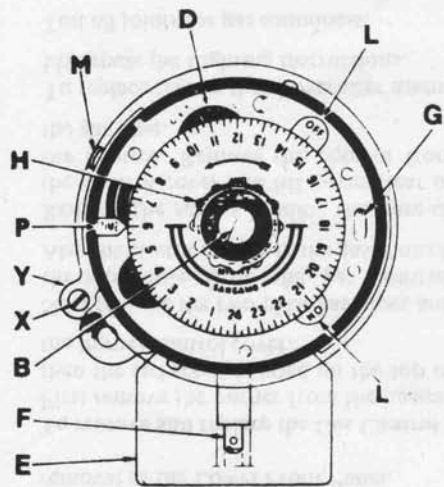

Fig. 1
1. Unscrew captive screw X (Fig. 1), rotate front cover anti-clockwise and lift clear.
9. On completion of installation and/or setting of switch, replace cover and rotate clockwise to fully closed position with cover lug Y in attitude shown in Fig. 1. Tighten screw X.
To set dial (Fig. 1)
2. Turn dial in direction of arrow until pointer P marked 'time' indicates the time of day at the moment of setting, e.g., Fig. 1 shows dial set for 6 a.m.
Note position of lever L (Fig. 1) which turns black disc D (Fig. 2) once every revolution of dial. If this lever has passed disc, set current day on disc to arrow marked 'day'. If, however, lever has not reached disc, then set day preceding current day on disc to arrow.
2. Set special hinged lever to time required as for levers L (Fig. 1).
Pressing the red button M (Fig. 1) immediately opens or closes the switch contacts, anticipating the next operation. This does not affect subsequent operations of levers L.